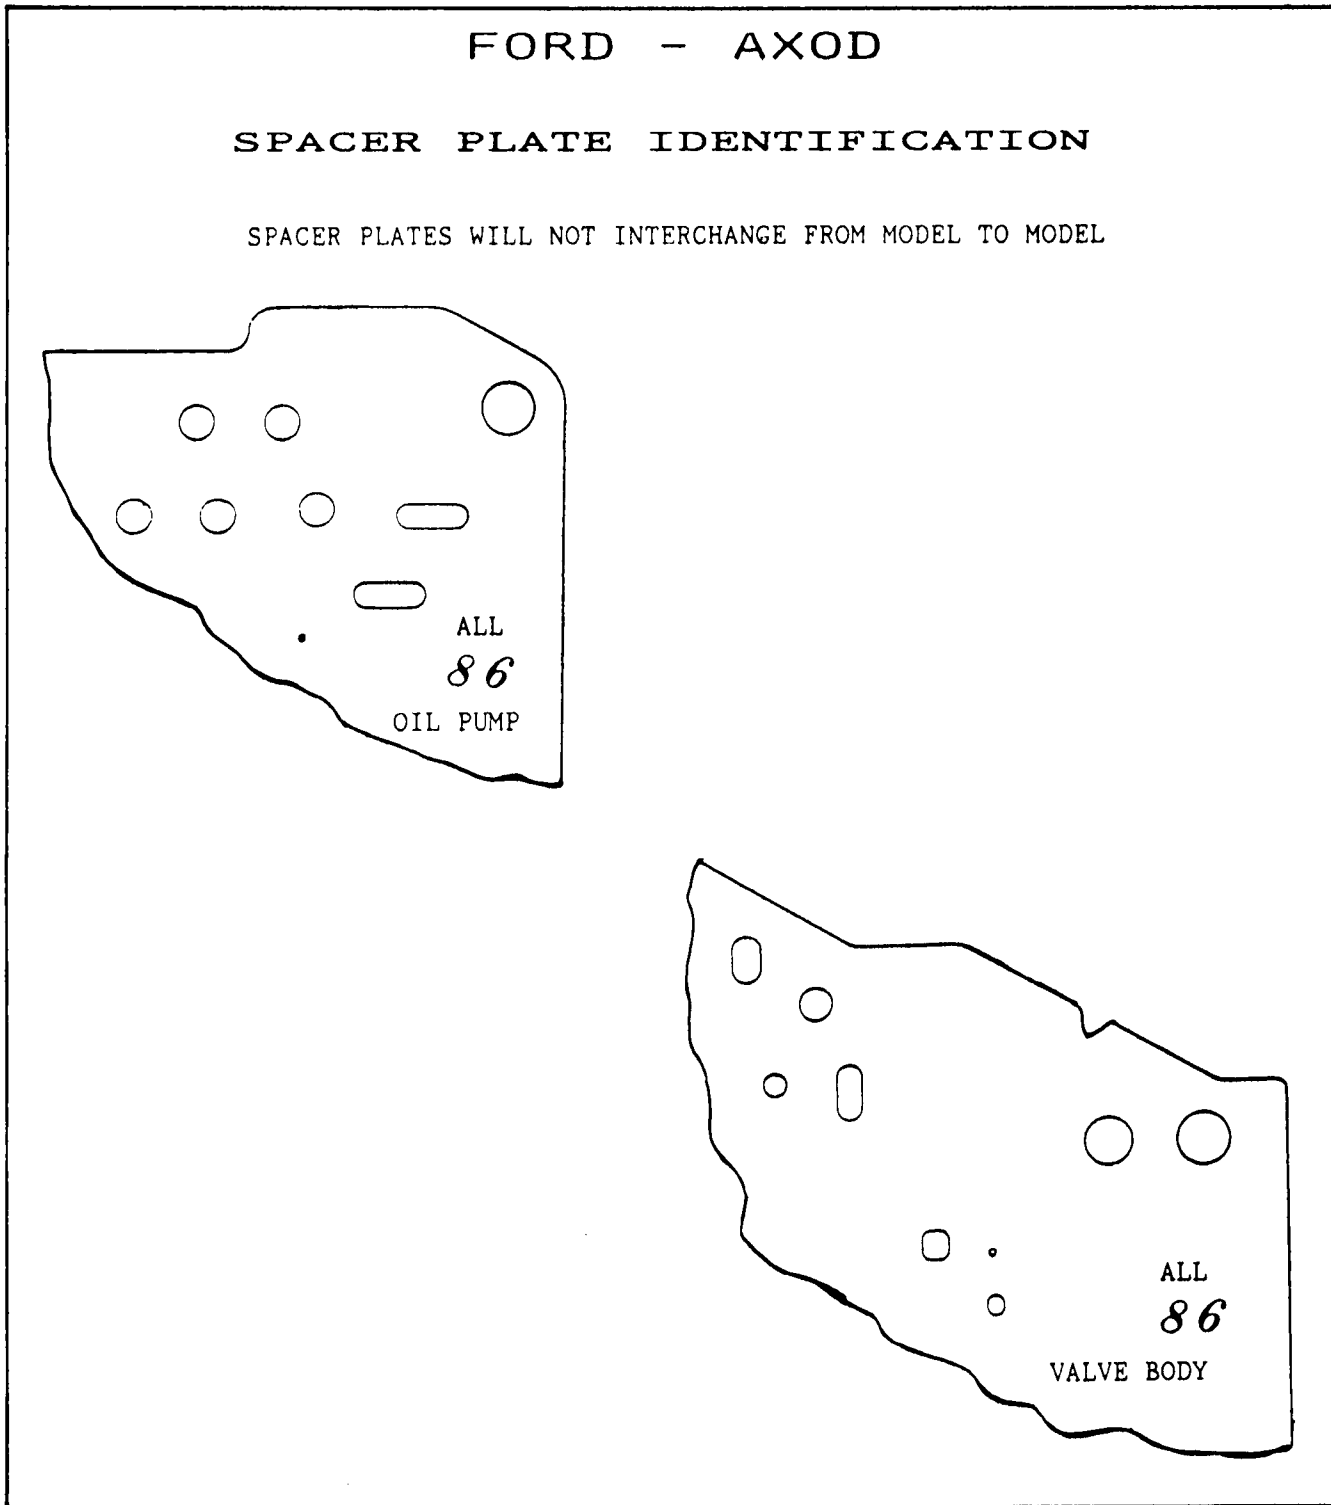

Figure 4
- (2) OIL PUMP SPACER PLATE - Must be identified by the "Notches" in the spacer plate as shown in Figures 4, 5, 6, and 7.
- (5) VALVE BODY SPACER PLATE - Must be identified by the "Notches" in the spacer plate as shown in Figures 4, 5, and 6.
- (6) VALVE BODY SPACER PLATE GASKETS - Must be identified by "Color Stripe" located on the gaskets as follows: